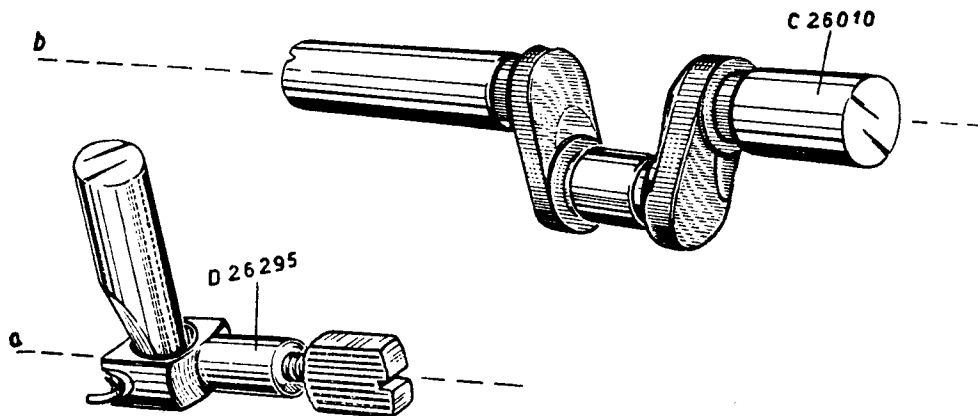

Fig. 25
In order obtain the above mentioned condition, it is necessary that the needle bar clamp No. D 26295 (Fig. 25) be firmly tightened and that axis *a* of the needle clamp No. D 26295 be directed parallel to axis *b* of the upper shaft No. C 26010 (Fig. 25) or, what amounts to the same thing, that the axis *a* of the needle bar clamp No. D 26295 be in direction of the longitudinal axis of the machine.
- b. Without moving it up and down, rotate the needle bar about its own axis in the required direction until it is in the position shown in Fig. 25.